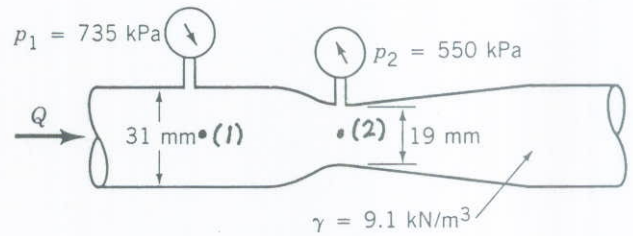

FIGURE P3.106
3.106 Determine the flowrate through the Venturi meter shown in Fig. P3.106 if ideal conditions exist.